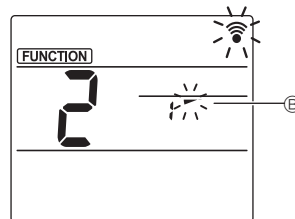

Fig. 3
③ Stille inn spjeldvinkelen (Fig. 3)